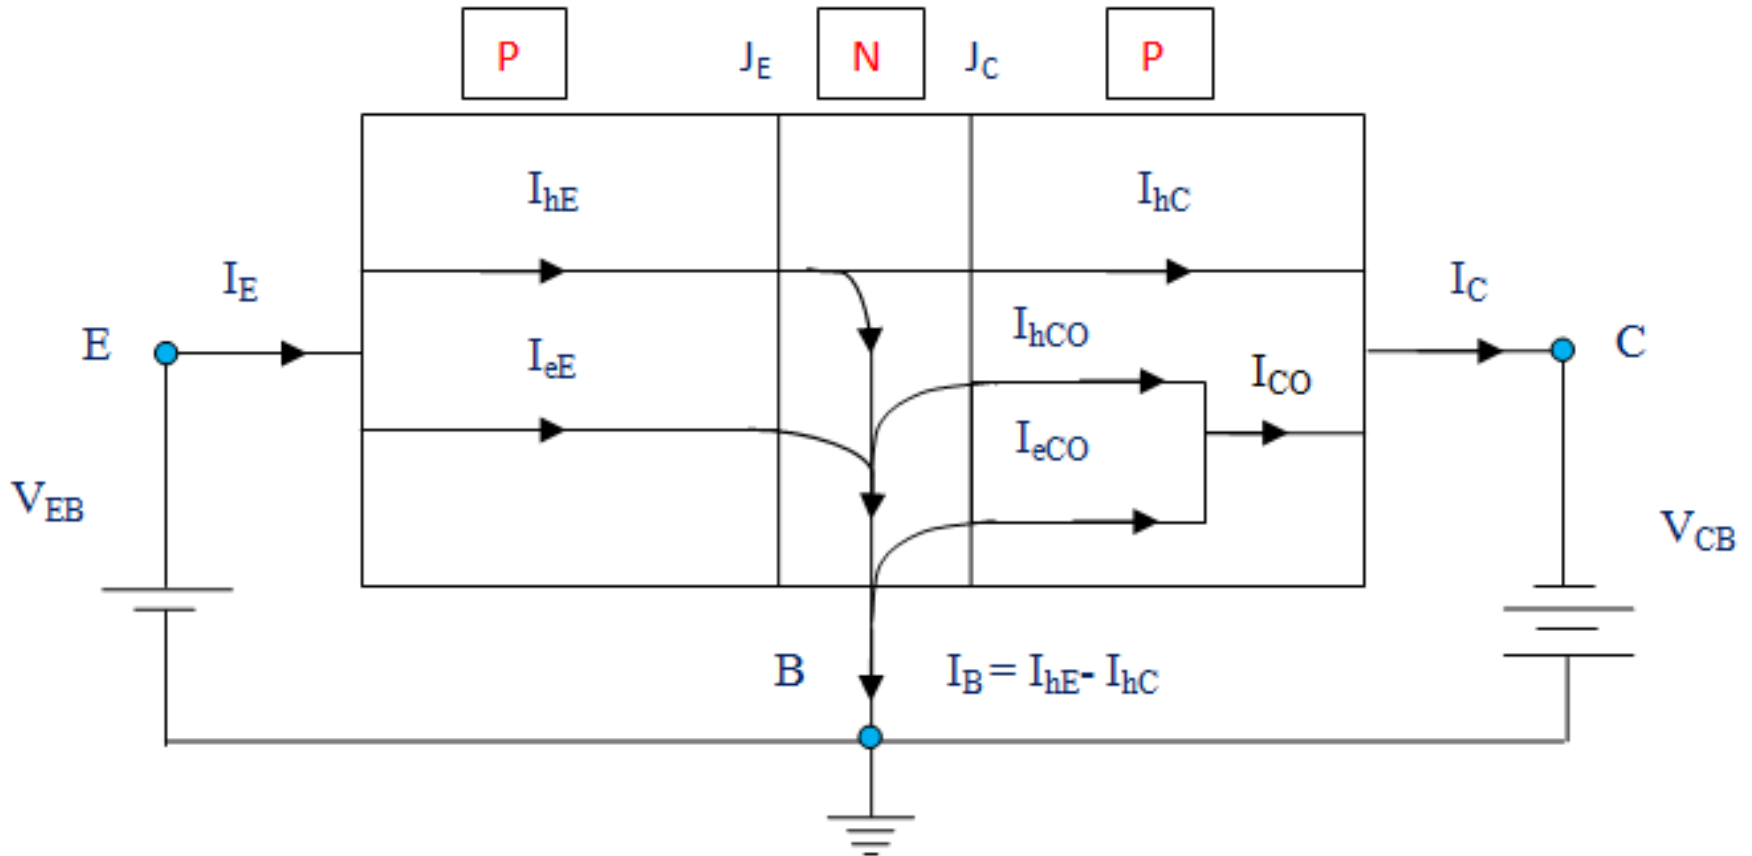

Fig 3: current components of transistor
- ◎ The purpose of a voltage regulator is to maintain a constant voltage across a load regardless of variations in the applied input voltage and variations in the load current. A typical Zener diode shunt regulator is shown in Figure 3. The resistor is selected so that when the input voltage is at $V_{IN(min)}$ and the load current is at $I_{L(max)}$ that the current through the Zener diode is at least $I_{z(min)}$. Then for all other combinations of input voltage and load current the Zener diode conducts the excess current thus maintaining a constant voltage across the load. The Zener conducts the least current when the load current is the highest and it conducts the most current when the load current is the lowest.